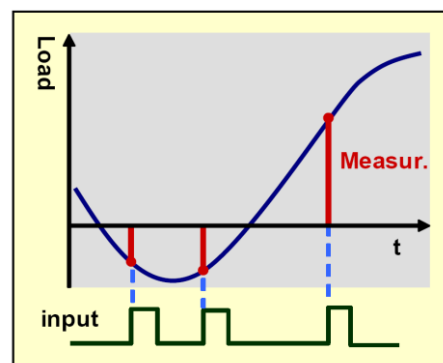

Fig. 3
9.2.1 Transmit measurement (fig.3) :